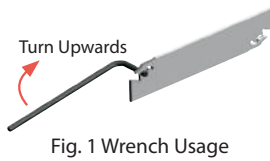

Fig. 1 Wrench Usage
1. Insert provide wrench and turn upwards as shown in (Fig. 1)